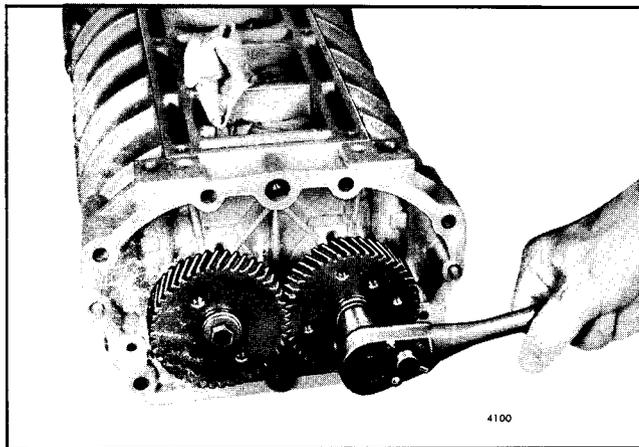

Fig. 17 - Installing Blower Rotor Gears
- k. Thread the hex head bolt in the left-hand helix rotor shaft and the twelve point head bolt in the right-hand helix rotor shaft and draw the rotor gears into position tight against the shims and the bearing inner races as shown in Fig. 17. Tighten the bolts to 50-55 lb-ft (68-75 Nm) torque.